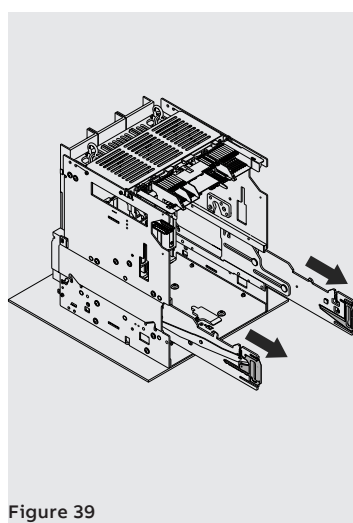

Figure 39
3. Extract the guides of the fixed part using the appropriate levers. See Figure 39.